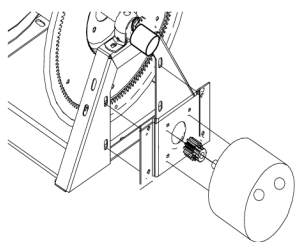

Fig 6.0 1125/1275 Series
- 2.) Remove bolts securing motor and/or bracket to reel. See figures 6.0 through 8.0 depending on reel model.